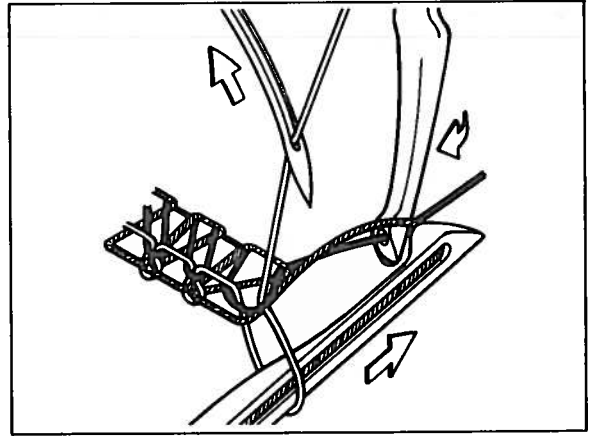

Fig. 10
Rotate handwheel in operating direction and closely observe the path of the upper looper as it moves from extreme right position and approaches lower looper (Fig. 10). Point of upper looper must pass the notched area behind the head of lower looper with minimum clearance and should pass under the lower looper thread.
3. Rotate handwheel in operating direction bringing the upper looper into the LOWER looper. The POINT of upper looper should be set to enter the notched area behind the head of the lower looper. See Fig. 10.